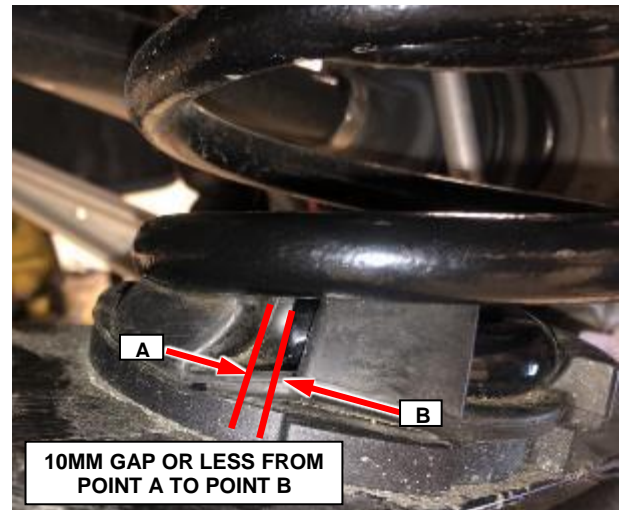

Figure 1 – Check Coil Spring to Isolator Gap at **Smallest Point**
NOTE: Neither the coil spring end nor the isolator spring stop are machined surfaces. If the ends of these surfaces are not parallel to each other, measure the area of the **smallest** gap. See **A-B measurement in Figure 1.**
- Gap from the end of coil to isolator spring stop (Figure 1)